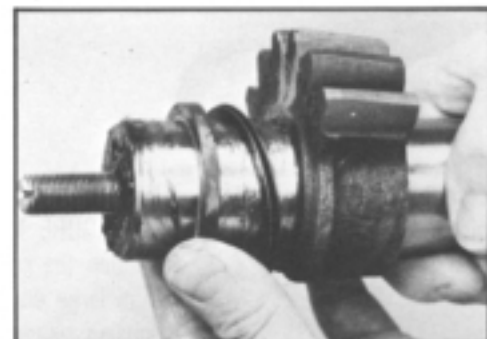

Figure 150
44. Slide retaining ring (62) if required onto the cover end of sector shaft (51). Assemble the new two-piece seal (48) onto the end of the sector shaft about 1 inch (25.4 mm). The words "Oil Side" on the seal must face toward the sector shaft. SEE FIGURE 150.